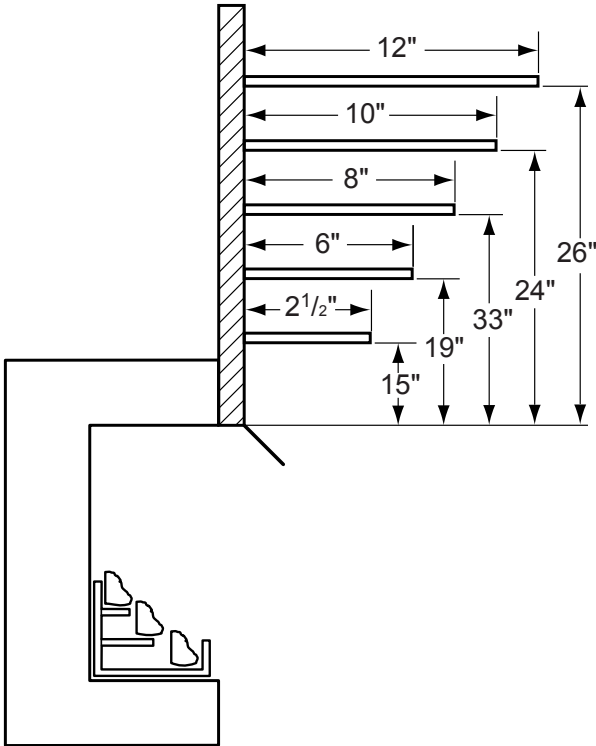

Figure 5 - Mantel Clearances for Model GCUF32
4. **Mantel clearances:** The canopy supplied with the unit must be installed. If a combustible mantel is installed, it must meet the clearance requirements as shown in Figures 5 and 6. However, if lower mantel height is desired, refer to page 14 for canopy options.